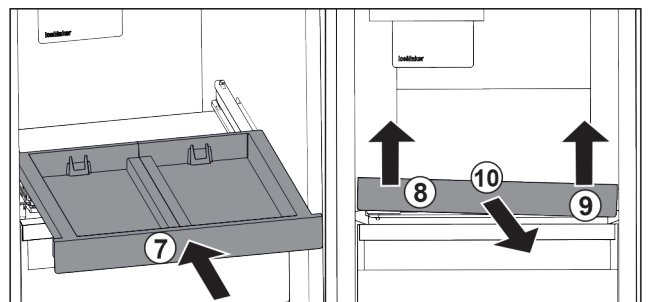

Fig. 35
- ▶ Slide in the pull-out board. Fig. 35 (7)
- ▶ Lift the pull-out board on the front left. Fig. 35 (8)
- ▶ Lift the pull-out board on the front right. Fig. 35 (9)
- ▶ Take out the pull-out board to the front. Fig. 35 (10)